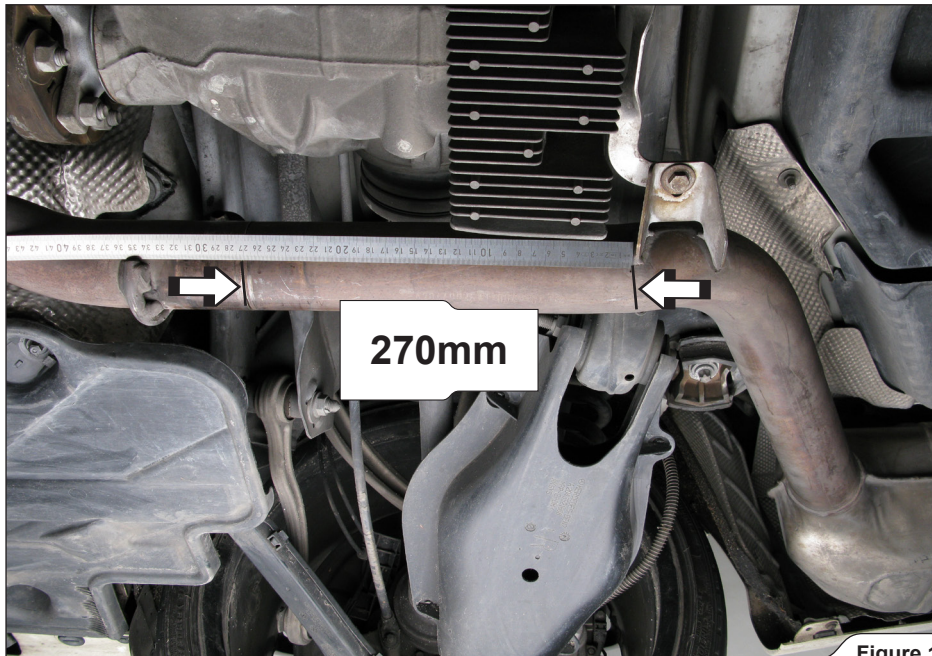

Figure 1
1. **For Slip-On only:** mark right muffler pipe **270mm** from the end of the bracket, as shown in figures. Cut the pipe, using angle grinder, jig saw or equivalent (**Figure 1, 2**).